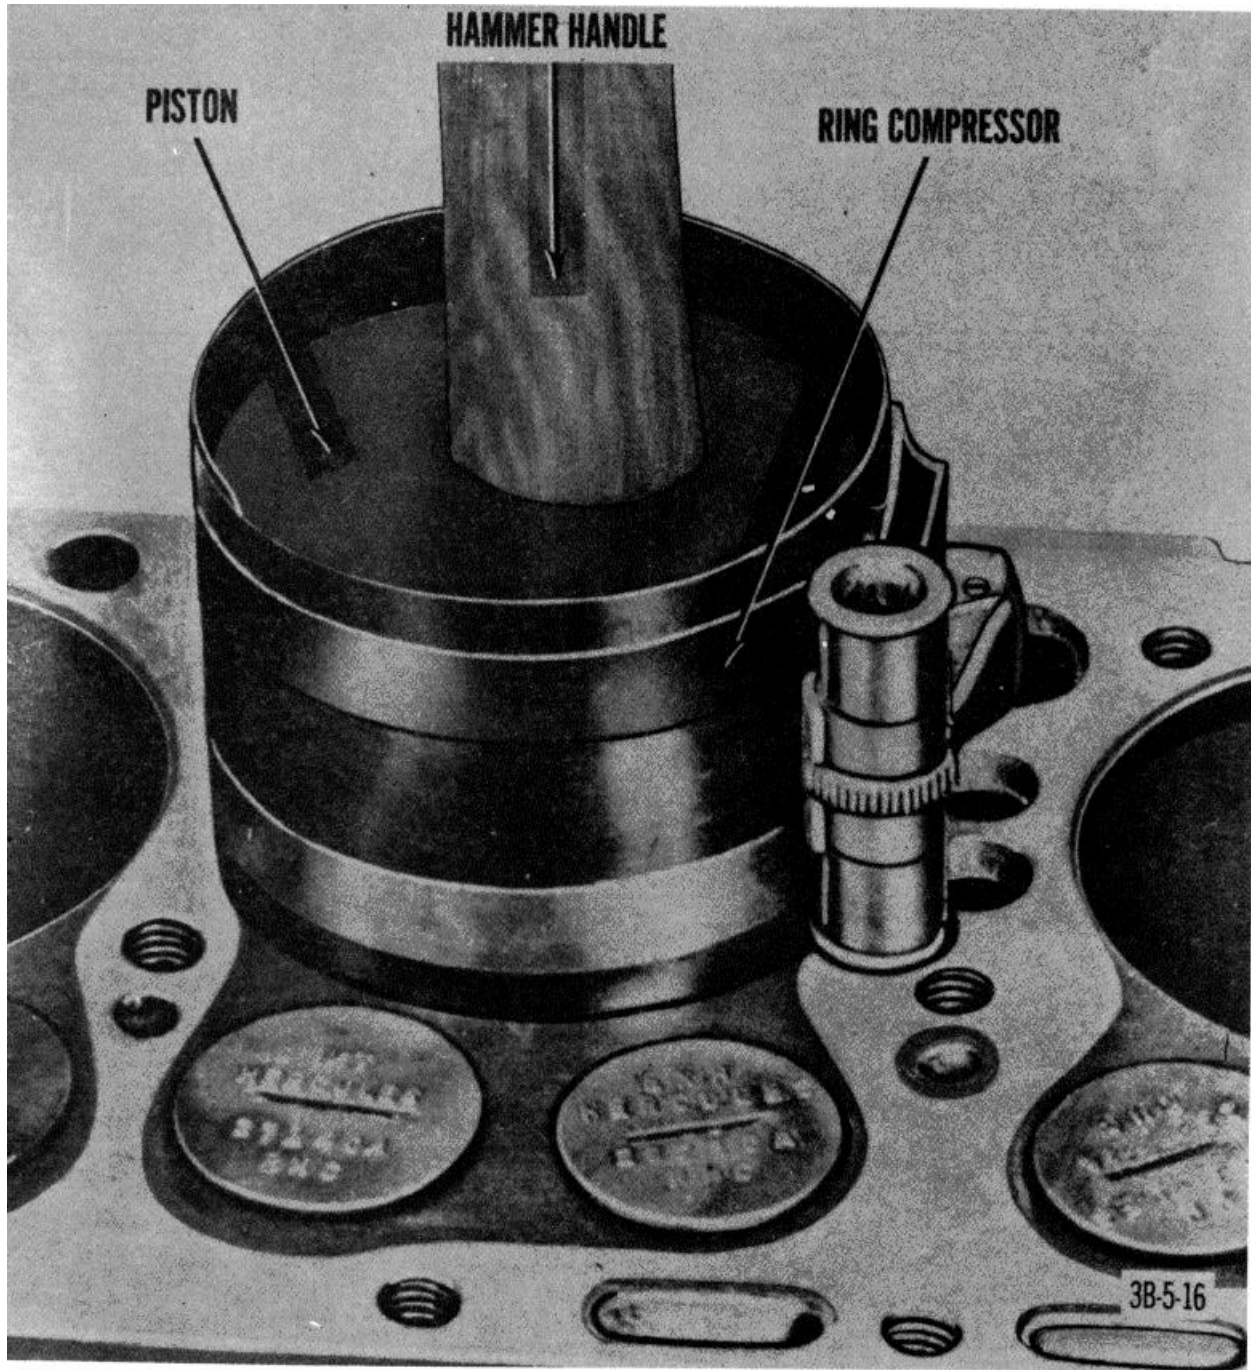

Figure 16. Measuring ring gap.
- (1) Install piston ring in bore of cylinder. Invert piston and use it to push ring about 2 inches from bottom of bore.
- (2) Measure gap with feeler gage (fig. 16). The gap should be 0.007 inch for all rings. If the gap is less than specifications, remove ring, and file ends until proper gap is obtained.